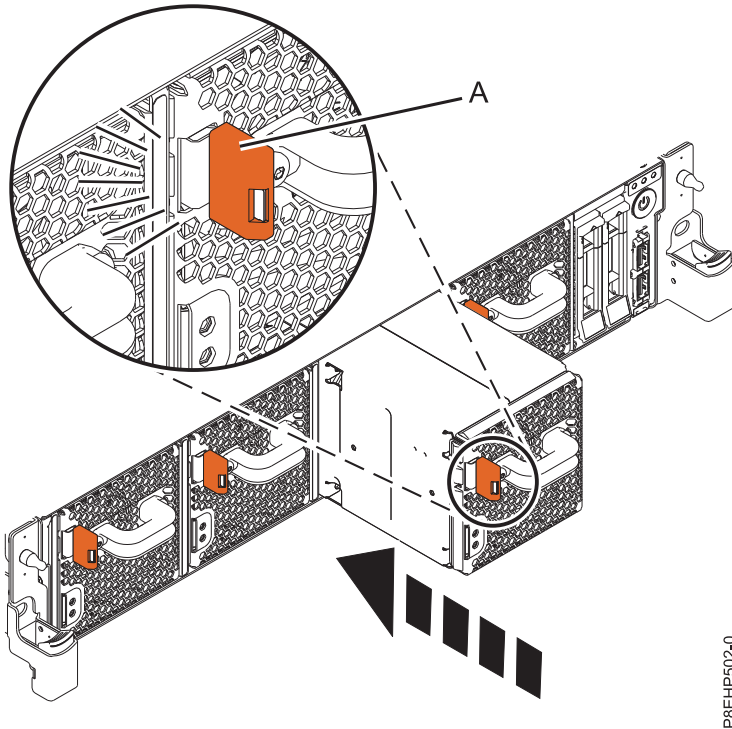

Figure 12. Replacing a fan in the system
2. Using your hand to support the bottom of the fan, align the fan (A) with the fan slot and slide it into the system until the terracotta tab (A) locks in place, as shown in Figure 12 on page 20.